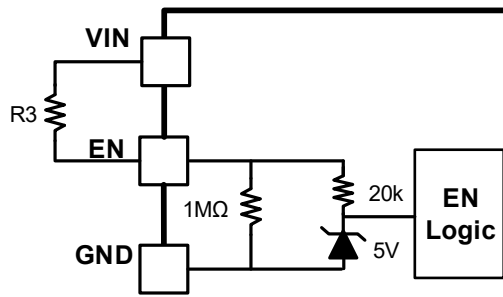

Figure 11. Adjustable VIN UVLO
An internal 1MΩ resistor from EN to GND allow EN float to shut down the chip. EN is clamped internally using a 5V series diode. For applications where a specified VIN UVLO voltage needs to be set, EN connects a resistor R3 to VIN to form a voltage divider with a 1M resistor inside the chip for the configuration of VIN UVLO voltage, as shown in Figure 11. The resistor distributor R3 is calculated by Equation (3).
The SCT2233M features external programmable output voltage by using a resistor divider network R1 and R2 as shown in the typical application circuit Figure 11. Use equation (6) to calculate the resistor divider values.